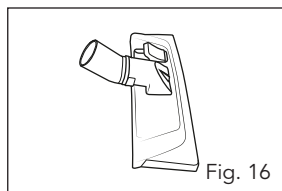

Fig. 16
The floor tool (21) is for vacuuming solids and liquids over medium to large areas (fig. 16).